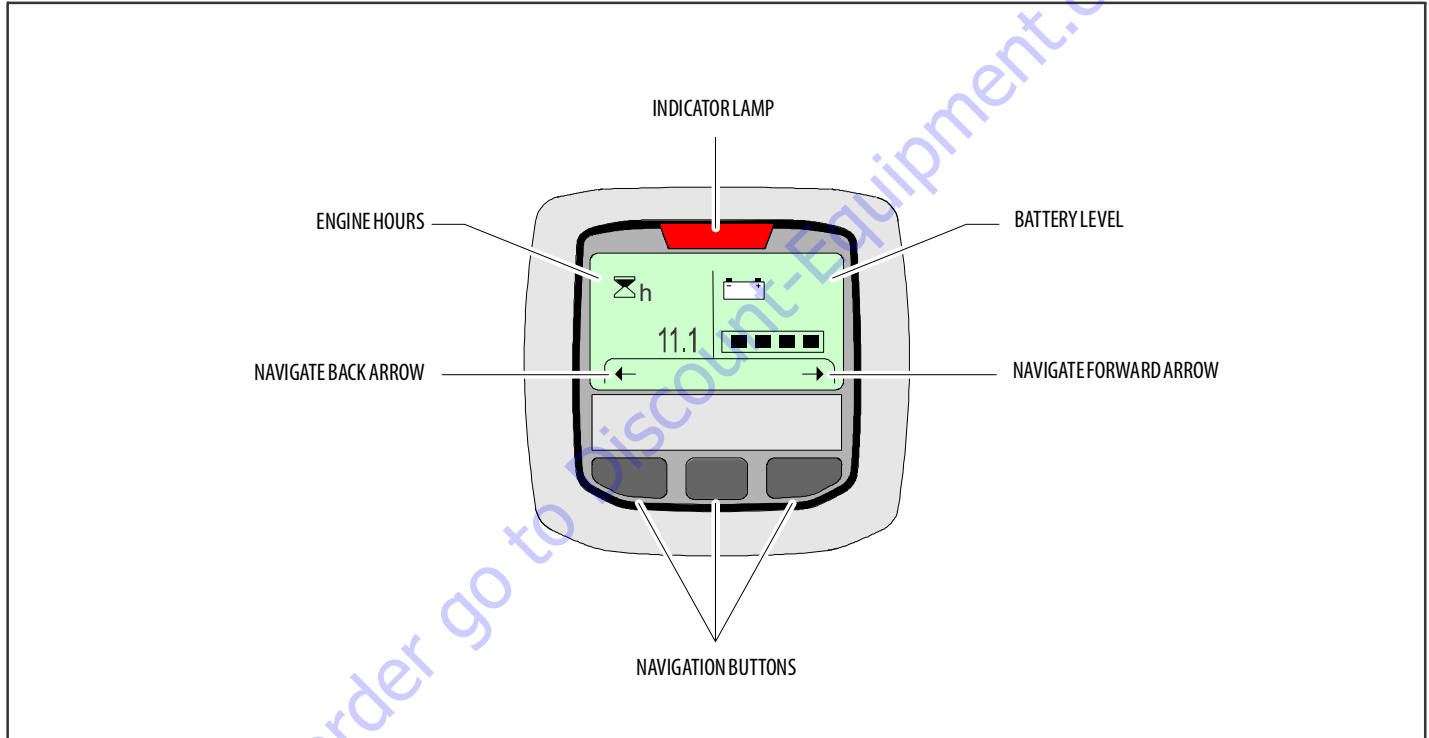

Figure 3-6. Ground Control Console Display Gauge
*(See Figure 3-6., Ground Control Console Display Gauge)*